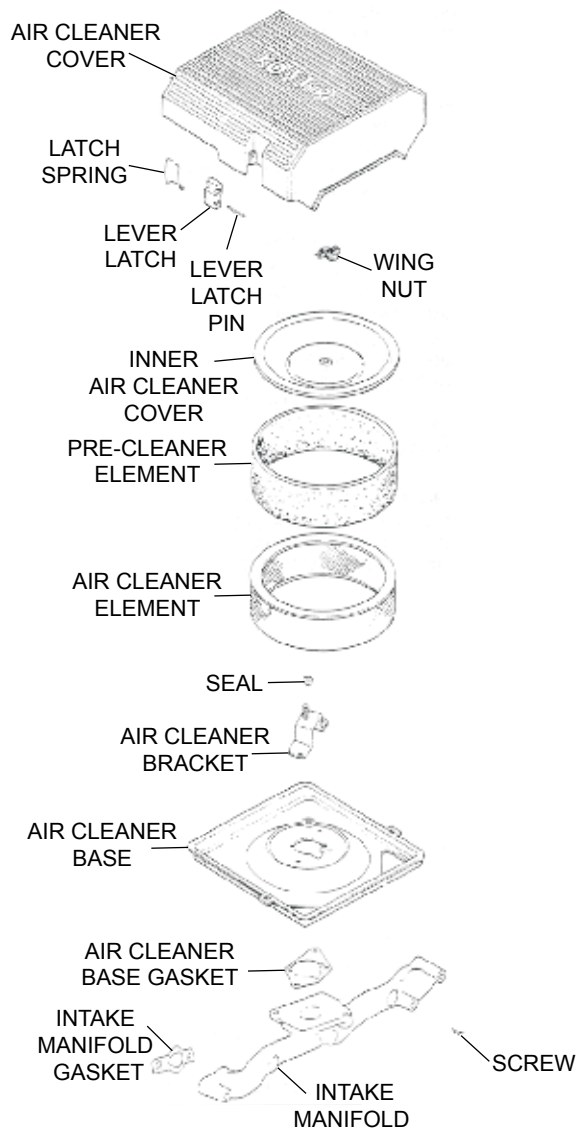

Figure 13. Air Cleaner Components
To service the precleaner perform the following steps and refer to Figure 13:
1. Release the latches located on either side of the air cleaner cover (Figure 13), and remove the cover.
Refer to the following steps and to Figure 13: